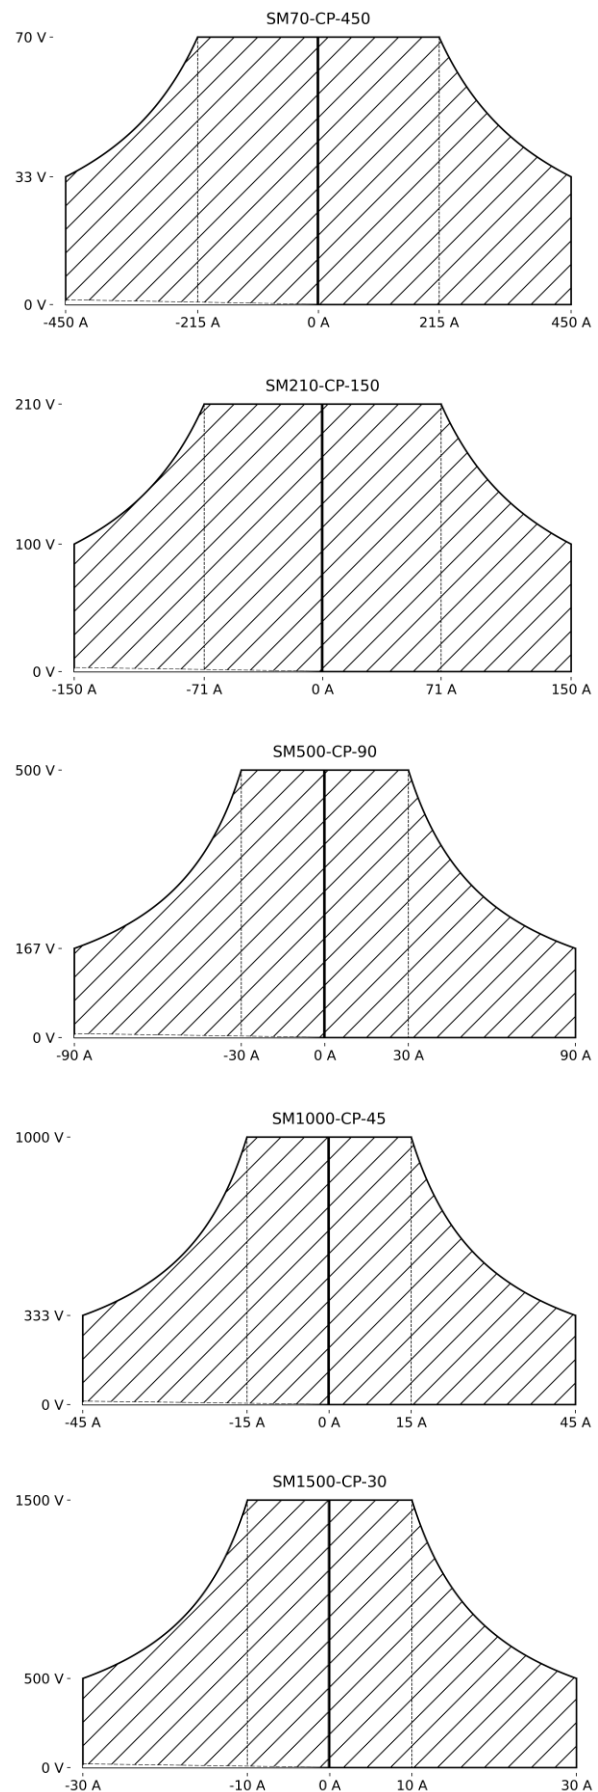

Figure 6.1: Output ranges of several models
- The change of mode occurs at the crossing of the voltage, current and power settings. Figure 6.1 shows the output ranges of different models.